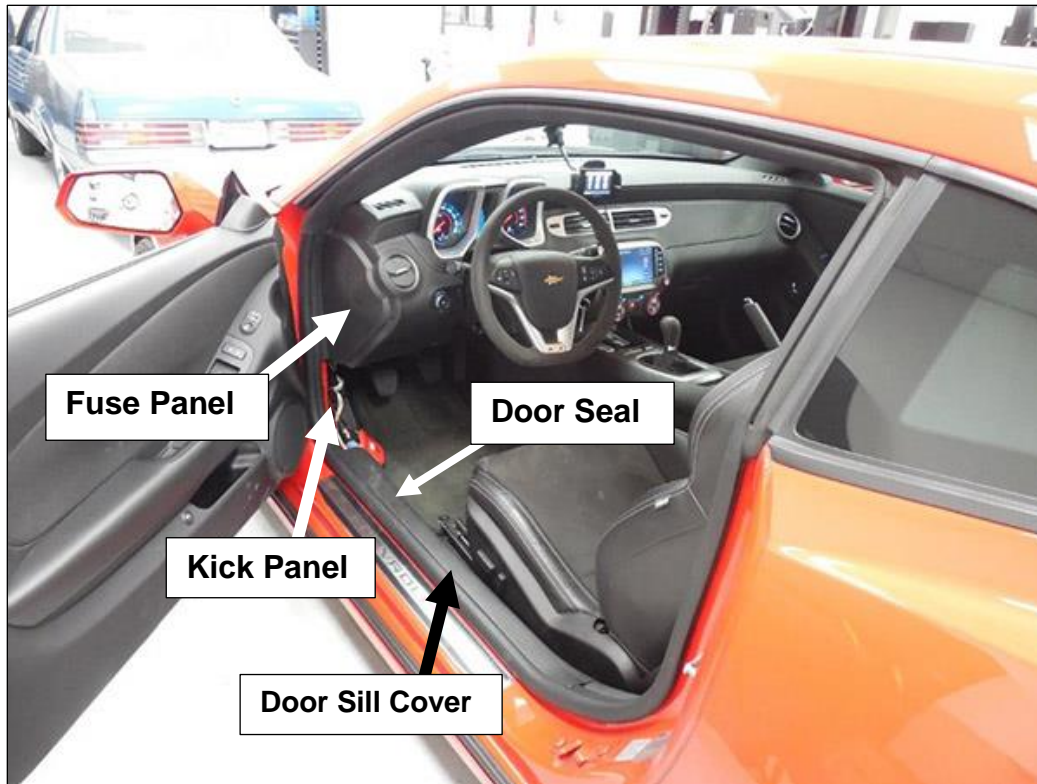

Figure 6
1. Remove the left kick panel behind the parking brake lever and the fuse panel cover at the left dash end cap. Also, remove the harness cover that runs along the door sill (**Figure 6**).
NOTE: It will be necessary to remove the door seal below the A-Pillar and along the door sill (**Figure 6**).